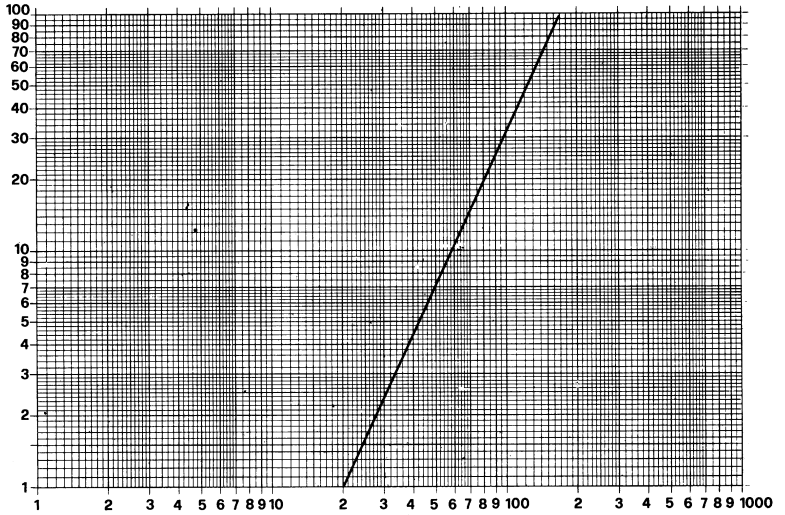

Fig. 3
**2.02 Pressure drop (fig. 3)**